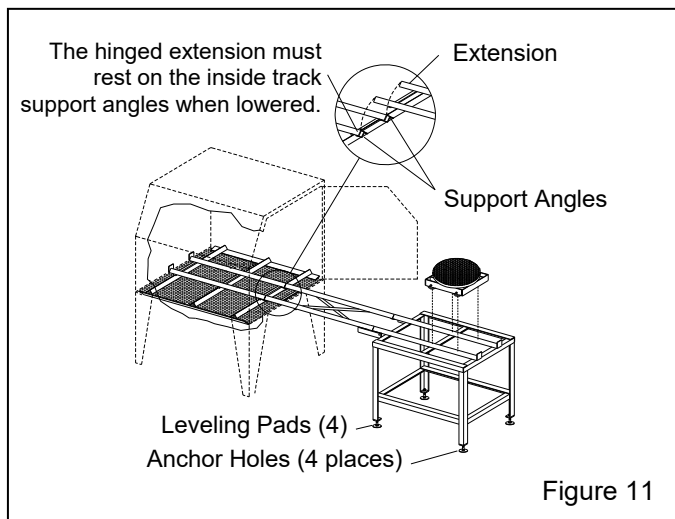

Figure 11
**3.5.3** Position the track support table and extension, as shown in Figure 11. When the hinged extension is lowered, the extension tracks must rest on the angled locating supports welded to the bottom of the inside tracks, and butt against the inside tracks.
**3.6.2** The gauge panel, gauge, filter, and panel fittings come fully assembled; the bushings, snubber fittings, and tubing are loose. Mount the panel on the cabinet or power module at a location where it can be easily monitored. One suggestion is to mount it on top of the cabinet at either side of the light assembly, or choose another convenient location. A 20-foot length of tubing is included with the kit, allowing the panel to be mounted within 10 feet of the dust collector connections, as shown in Figure 11.